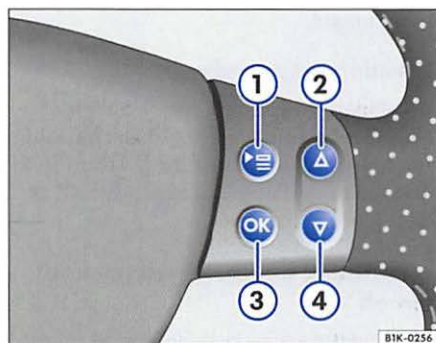

Fig. 11 Multifunction steering wheel: right side
- Press the ⇒ fig. 11 ① button on the multi-function steering wheel until the **SETTINGS** menu is displayed.
- Press the arrow keys ② or ④ to highlight the menu item **Convenience**. The highlighted menu item is between the two horizontal lines. There is also a triangle on the right ◀.
- Press the ③. The **Convenience** menu opens. ▶